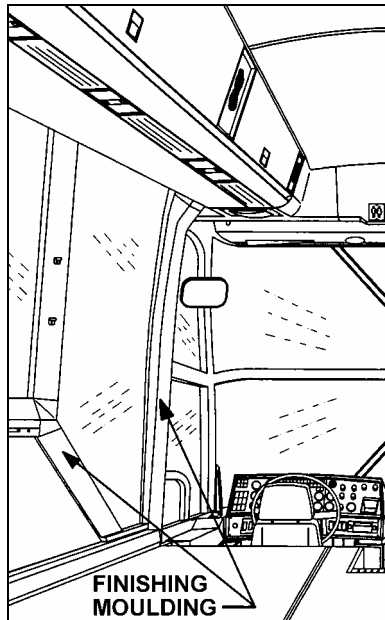

FIGURE 1: FINISHING MOULDINGS
1. From inside vehicle, remove driver's guard finishing panel. Remove finishing moulding located at bottom of window and finishing moulding located near window's longest side, set aside (refer to fig. 1).